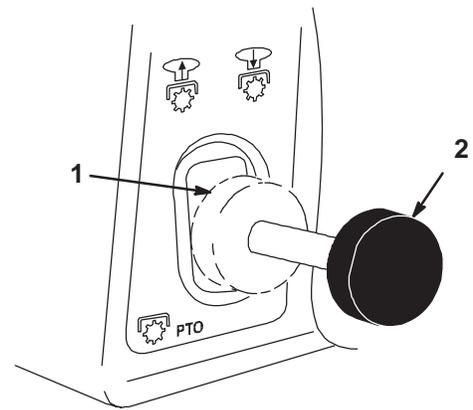

Figure 15
2. Pull the power take off (PTO) to “ON” (Fig. 15).
2. Push the power take off (PTO) to “OFF” (Fig. 15).